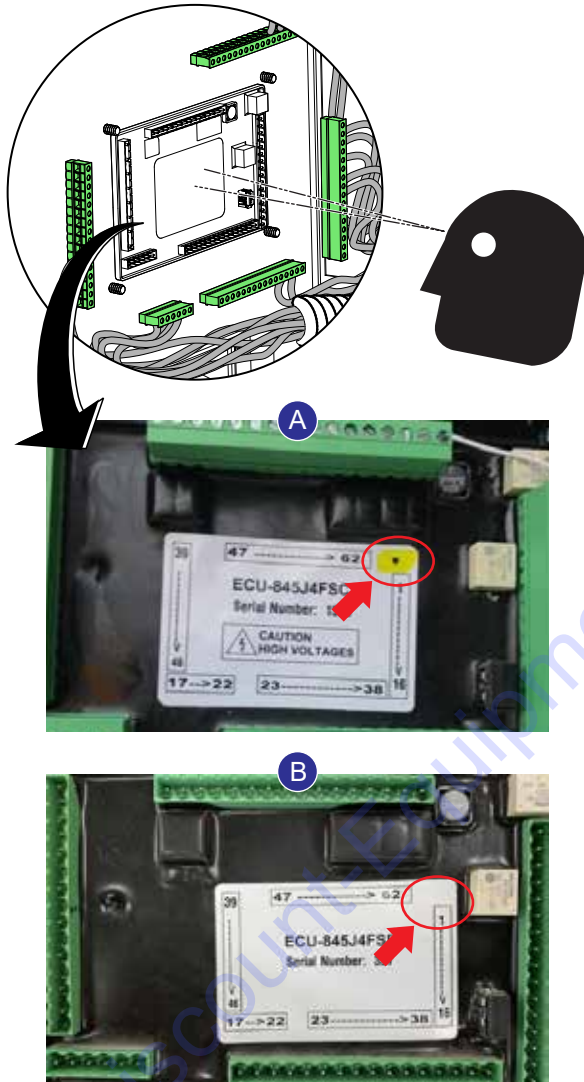

Figure 5. Controller Rear
4. Inspect the label (Figure 5) on the rear of the existing ECU845 controller.